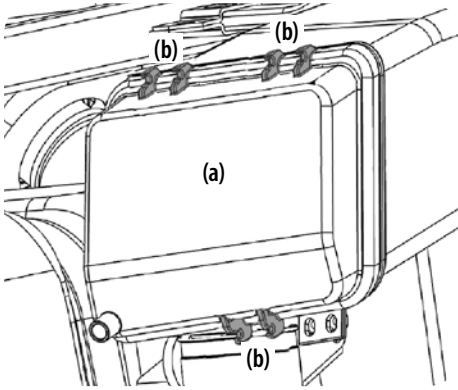

Figure 5-25
2. Remove the air filter cover (a) from the three air filter cover holders (b). See Figure 5-25.